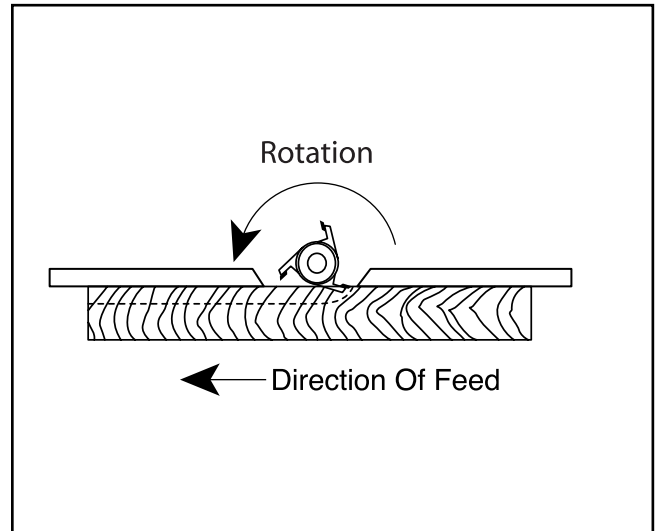

Figure 36. Fence adjustment for blind cuts.
4. Run a test piece through the shaper as shown in **Figure 36.**